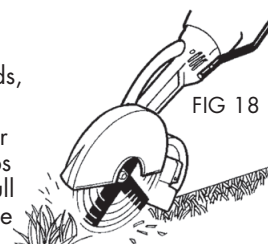
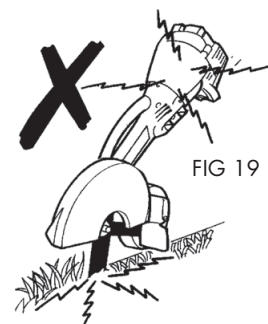

FIG 18
FIG 19
10. Blade rotating speed should be fast under load. If blade rotates slowly, jams or stops in the ground (Fig. 19), lower handles, pull unit back, release trigger and recommence (Fig. 18). Re-adjust blade height (Fig. 15).
11. Clutch: The Atom Edger is equipped with a safety clutch. DO NOT run edger if blade is jammed, as clutch shoes will prematurely wear and cause damage if cutting blades do not rotate (Fig. 19).